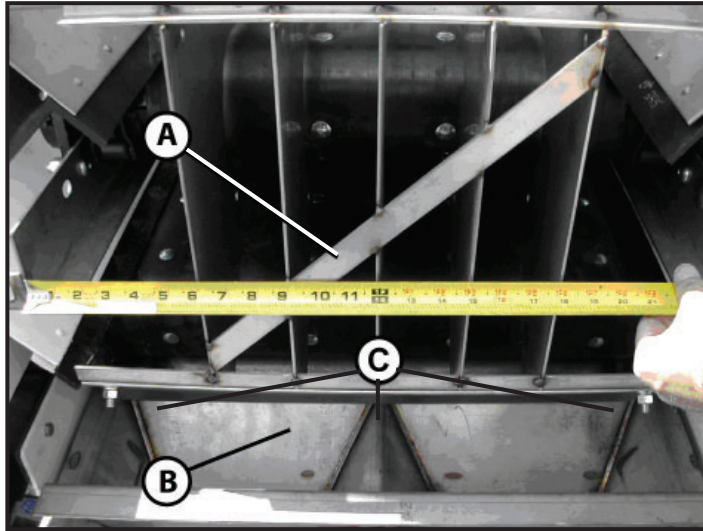

Figure 19A - MULTAPPLIER Hillside Divider (Style I)
Style I MULTAPPLIER - Remove hardware from rear two chain shield holes on each side of MULTAPPLIER and set aside. Install MULTAPPLIER Hillside Divider (A) over conveyors and attach using chain shield hardware. Adjust Hillside Divider so that the middle divider is centered over both conveyors and the Material Divider (B) as shown in Figure 19A.